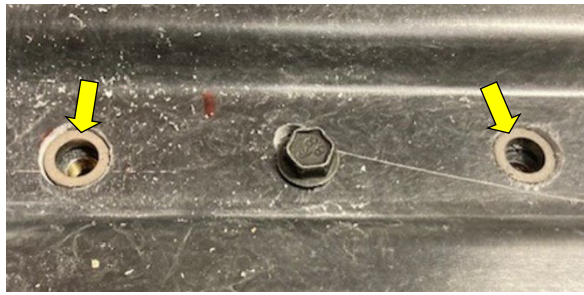

Fig. 7-1
- (a) Reinstall M6 bolt to center hole from the top and torque to 12 Nm (9 ft-lbs.). Remove M8 bolts. (Fig. 7-1)